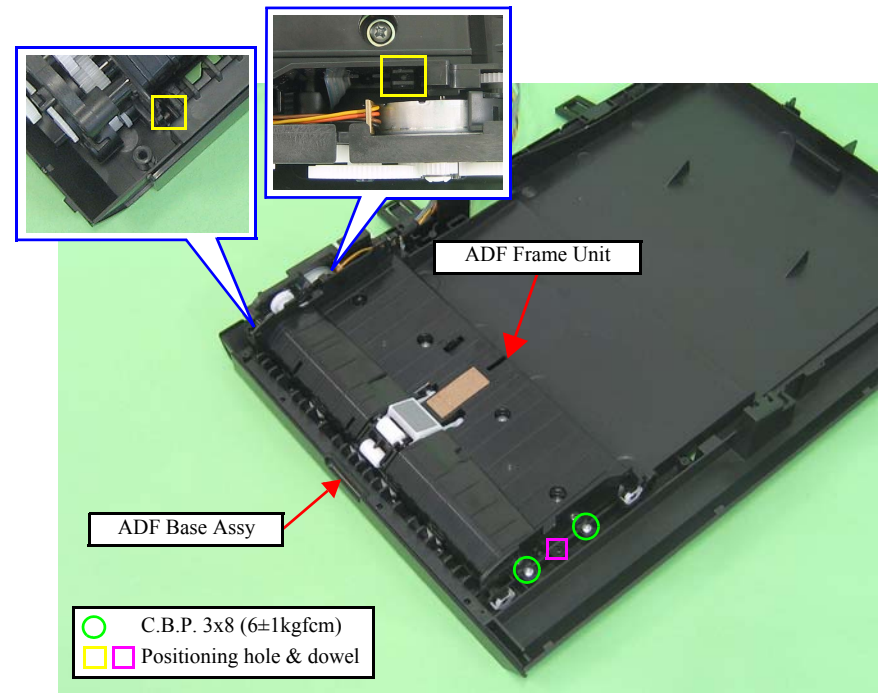

Figure 4-192. Removing the ADF Frame Unit (2)
- When installing the ADF Frame Unit, align the positioning holes (x3) of the ADF Frame Unit and ADF Base Assy with the dowels (x3) □ □ as shown in Fig. 4-192.